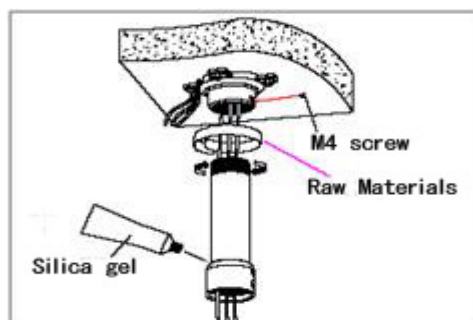

Fig 14
c. As shown in the Fig 14, tighten the boom with electrical wire and cable through it on the base of ceiling and screw up the M4 screw.